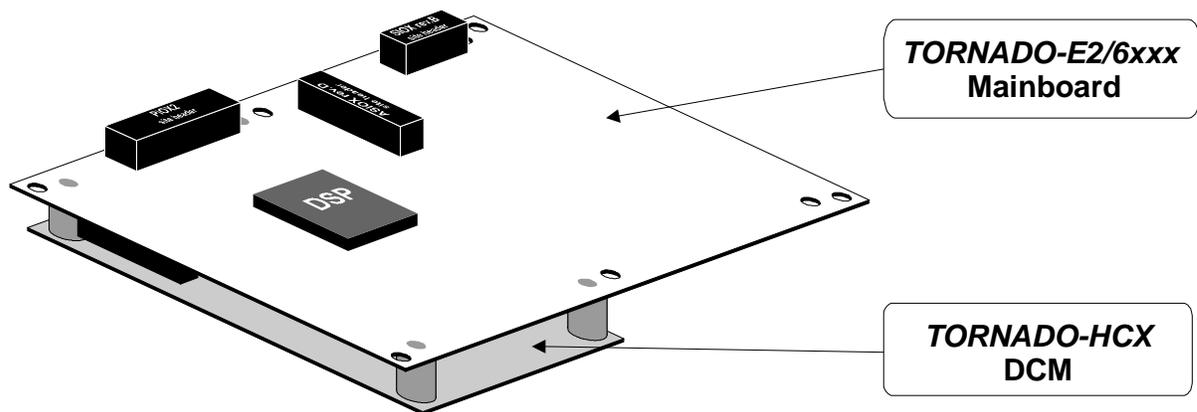

Figure 1-2. *TORNADO-E2/6713* DSP controller with installed *HCX* DCM.
*TORNADO-E2/6xxx* DSP controllers are designed for stand-alone applications, however they can be easily expanded with powerful host communication features and high-performance communication interfaces (Gigabit Ethernet, USB, etc) using optional host control expansion (*HCX*) DCM. Figure 1-2 shows *TORNADO-E2/6713* DSP controller with installed *HCX* DCM.